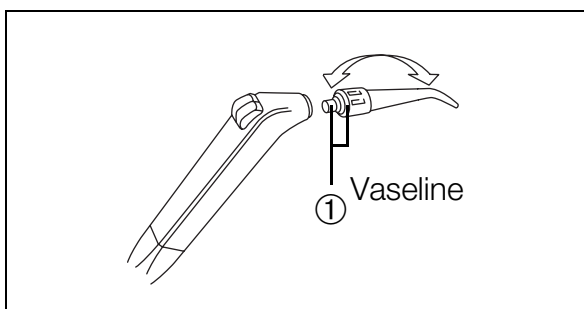

Fig. 23
- Remove the nozzle from the handle sleeve by turning it slightly (Fig. 23).
- Following sterilization, spread a little Vaseline over both O-rings ① (Fig. 23).
- When putting the parts back together, please pay attention to the position of the valve body ③ in relation to the handle sleeve. The buttons ④ in the handle sleeve must **not** be pressed in the process.